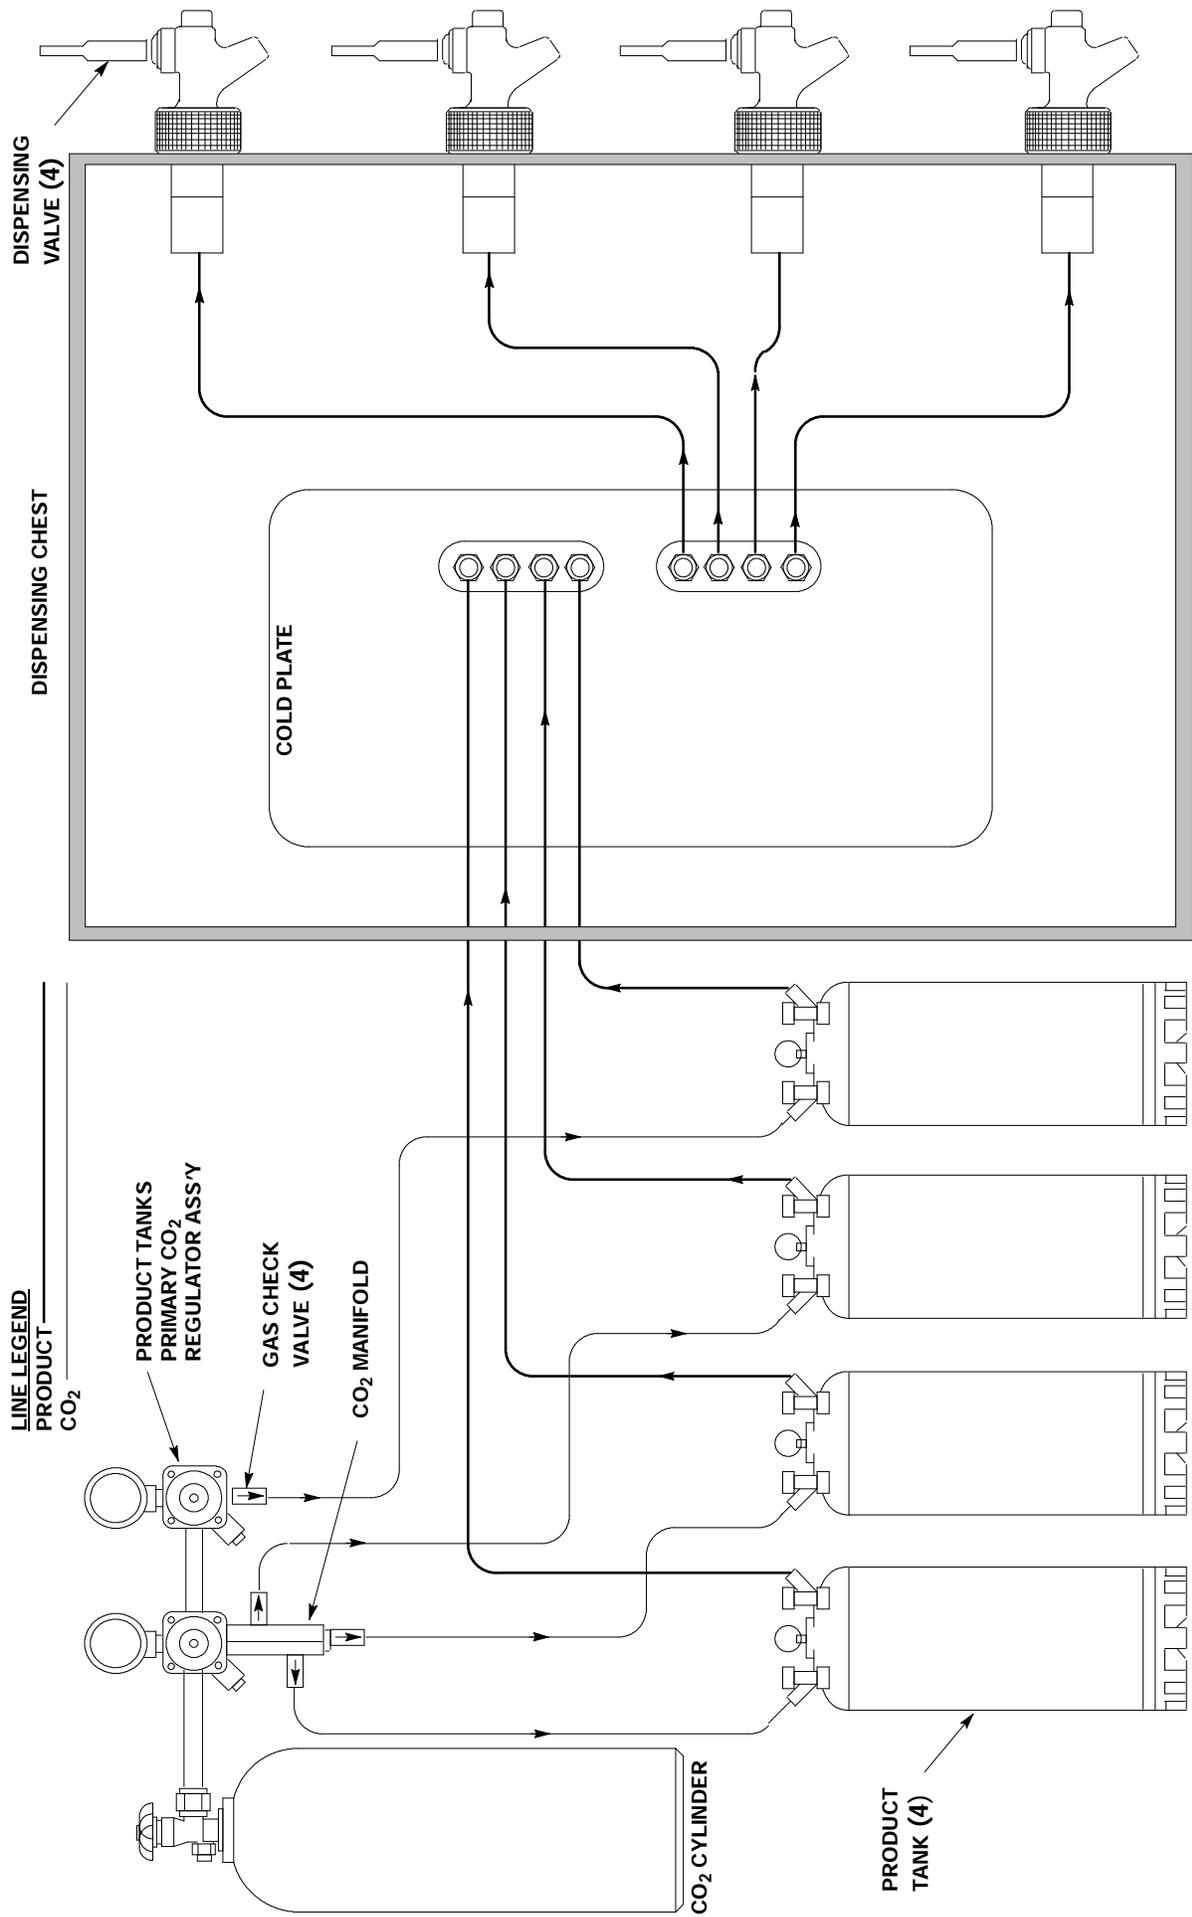

FIGURE 2. FLOW DIAGRAM
(see Figure 2)
15. Connect product tanks product lines to Dispensing Chest product inlet lines as shown in Figure 2. Seal metal-to-metal connections with tapered gaskets.
17. Install CO₂ regulator assembly on CO₂ cylinder as shown in Figure 2. **MAKE SURE CO₂ CYLINDER IS SECURELY FASTENED WITH SAFETY CHAIN.**